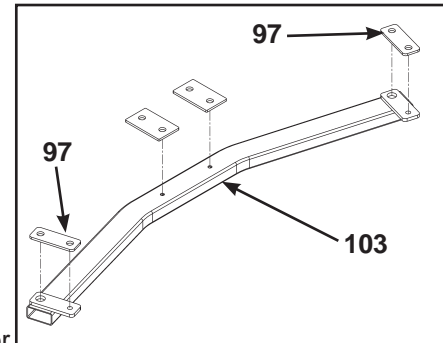

Figure 2
- B. Lay one of the stabilizers (#103) so that the bottom side is facing up. See Figure 2.
- C. Remove the backing from two of the foot pads and install foot pads 2.00 x 5.25 (#97) as shown in Figure 2.